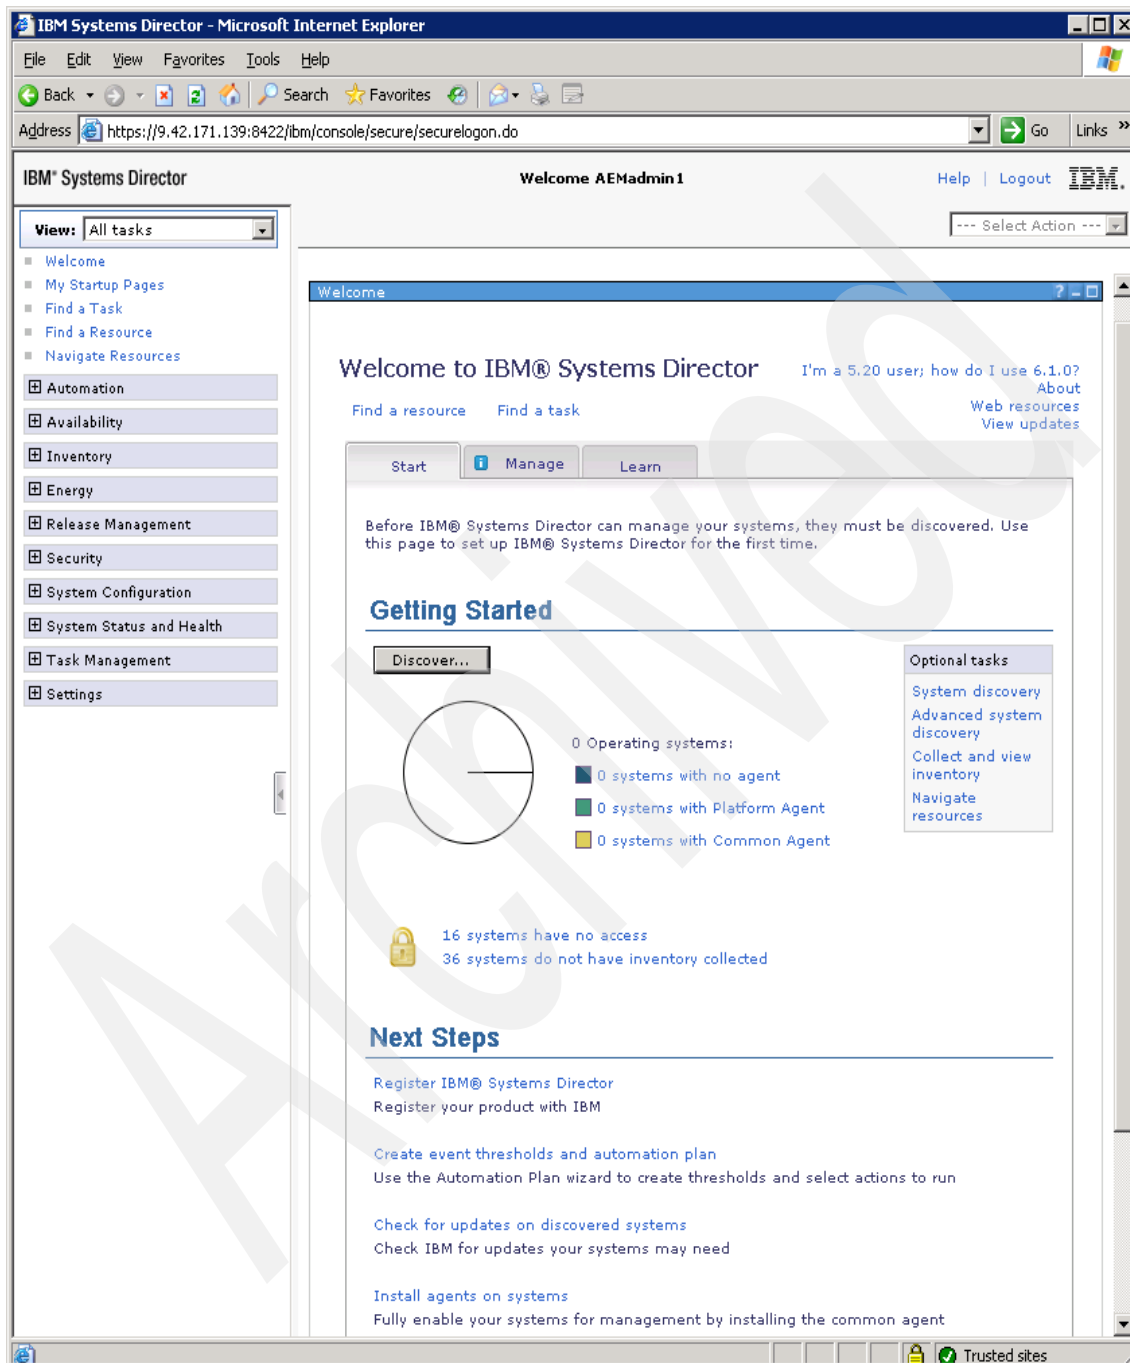

Figure 4-2 IBM Systems Director welcome view at initial login
3. The first time that you log in, you are presented with the welcome page shown in Figure 4-2 on page 112. On the IBM Systems Director Welcome page, you can complete first-time setup steps to make sure that IBM Systems Director and its plug-ins are set up and configured to manage your environment. For a description of the various areas in the Web console, see 4.3, "Layout of the Web console" on page 113.